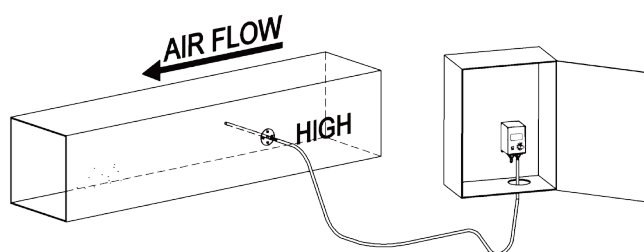

**Figure 9:** Rotary Switch Position for Display Mode Selection
- Place the rotary switch into the blank position, see Figure 9.